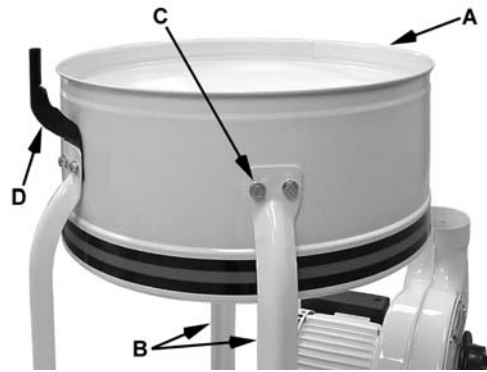
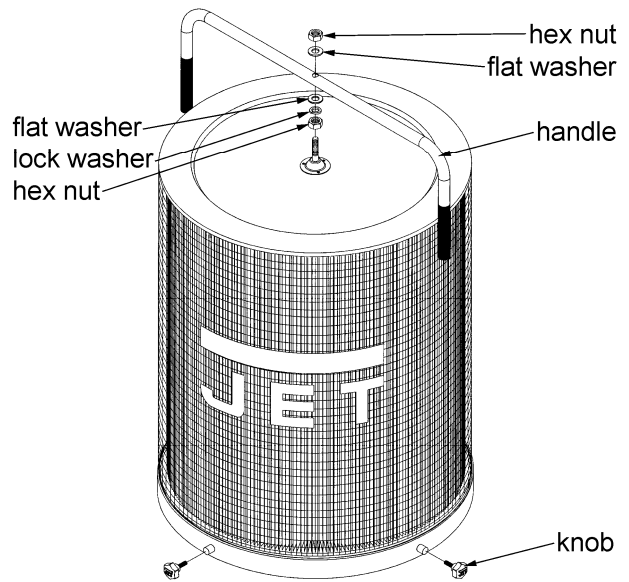

Figure 5
Figure 10
- Install the *housing* (A, Fig. 5) to two *support legs* (B, Fig. 5) using four M8 x 16 hex cap bolts, eight M8 flat washers, and four M8 hex nuts (C, Fig. 5). *Be sure hose opening faces fan housing.*
Note: For models DC-1200VX-BK1 or DC-1200VX-BK3 only – Before attaching third support bracket, place the *hanger bracket* (D, Fig.5) between the support bracket and the housing.
1. Mount the handle onto the canister filter with two M10 hex nuts, two M10 flat washers, and a M10 lock washer (Figure 10).
2. Mount the canister filter on top of the *collector housing* (A, Fig. 5) and tighten the knobs on the *canister filter* (Figure 10).